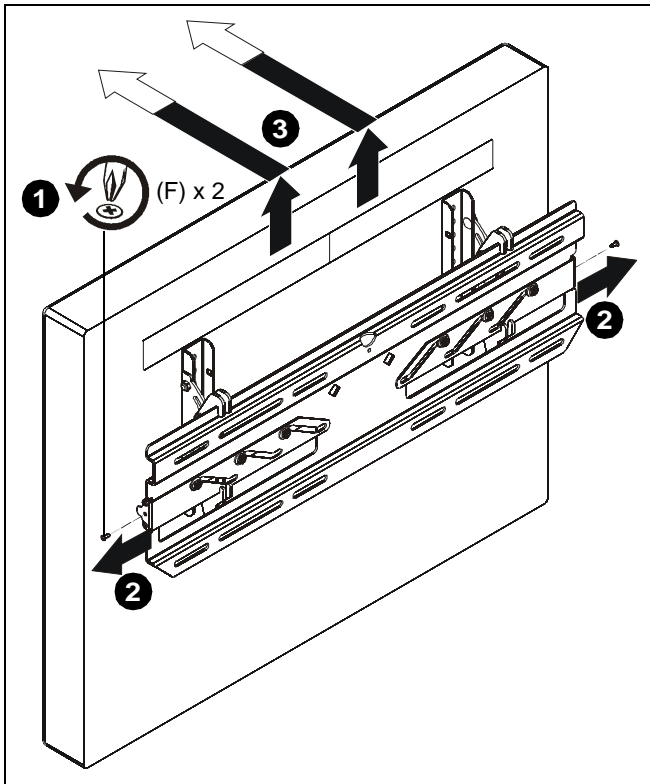

Figure 10
1. If applicable, remove the self tapping screws (F) and/or padlocks from both sides of the wall plate. This hardware provides security. (See Figure 10)
2. Slide the security latches out on both sides to disengage the display from the wall plate. (See Figure 10)
3. With an assistant, lift the display up and off the wall plate to remove the display from the wall. (See Figure 10)